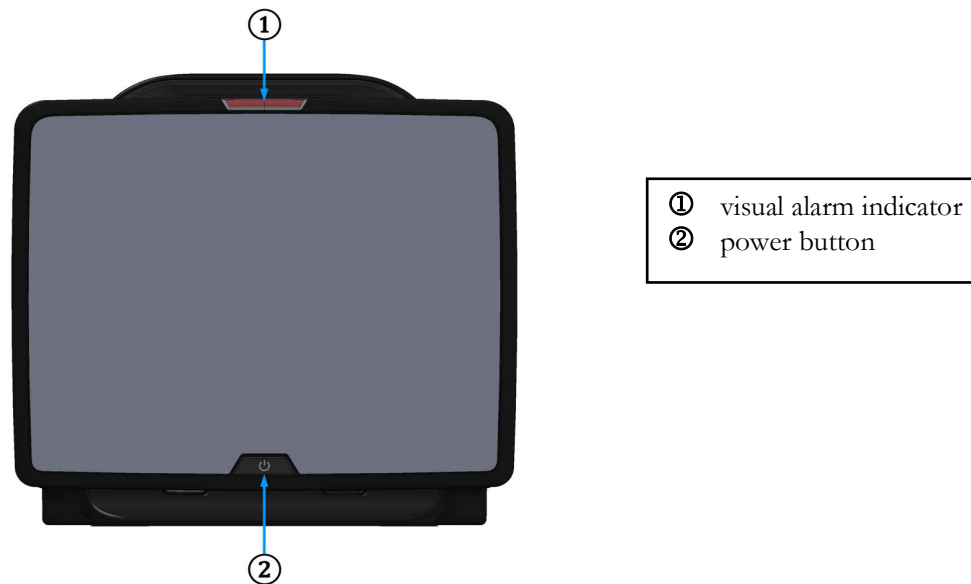

Figure 3-1 HemoSphere Vita monitor front view
To power the monitor off, touch the power button. See ② in Figure 3-1 on page 39. The following options will be displayed: